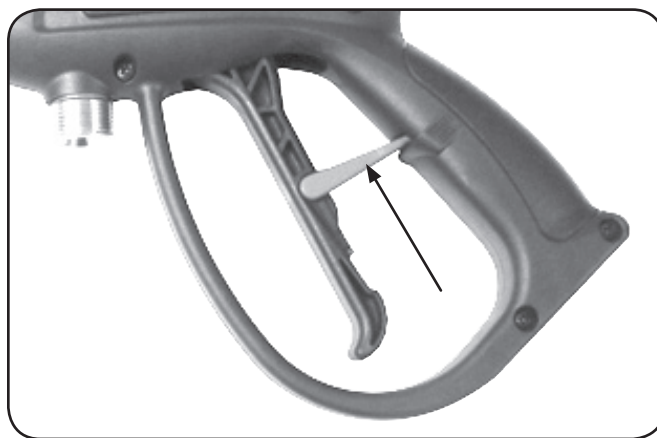

Figure 5-4
**Risk of injury from spray. Always engage the trigger lock when gun is not in use. See Figure 5-4. Failure to do so could cause accidental spraying.**